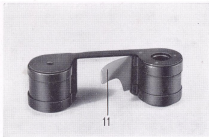

fig. 6
At the free end of tongue (9) there is a vertical slit (10) in which the tail end of the film (11) - fig. 5 - will be inserted. To do this hold magazine in position as shown in fig. 6. The bar connecting the two car-